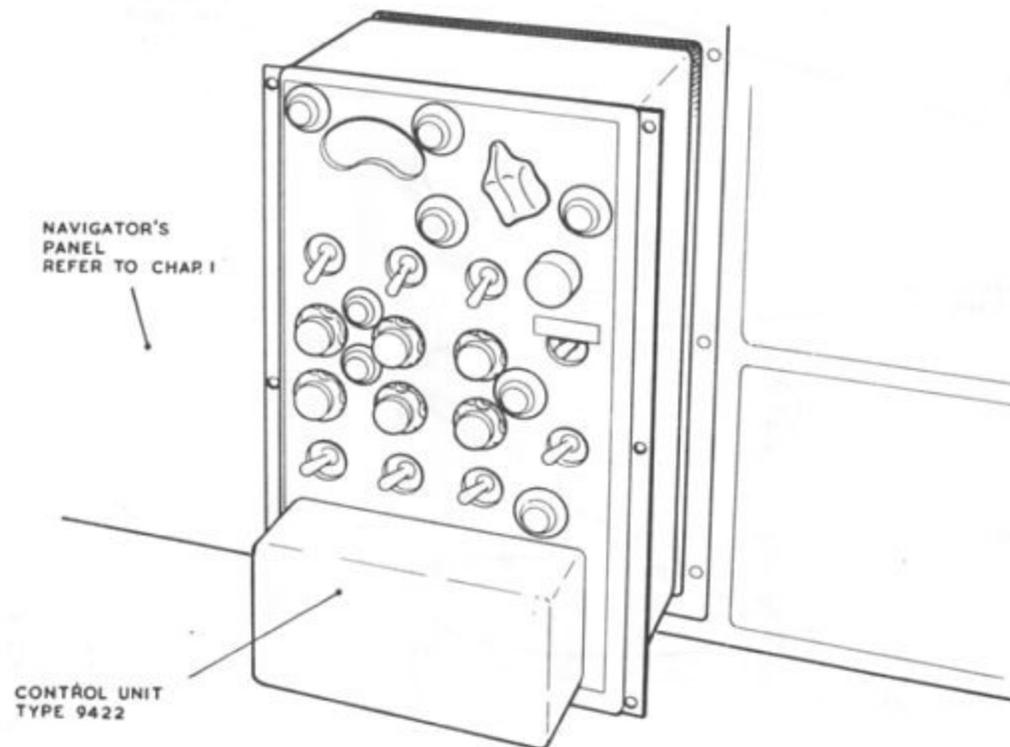

Fig. 3 Navigation station - control unit
5. Each power unit is pressurized with nitrogen and is provided with a heat exchanger which is connected to the E.W. cooling systems in a similar manner to the transmitters (para.4). Each power unit supplies a stabilized E.H.T. to a transmitter and is switched on by the control unit at the navigator's station (fig.3).
8. The control unit is fitted at the navigator's station and controls the three transmitters (fig.3). A UNIT SELECTION